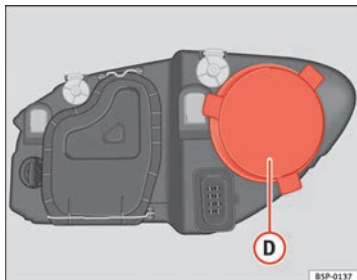

Fig. 184 Side lights
- Remove the cover ⇒ fig. 184 **D** by pulling on this.